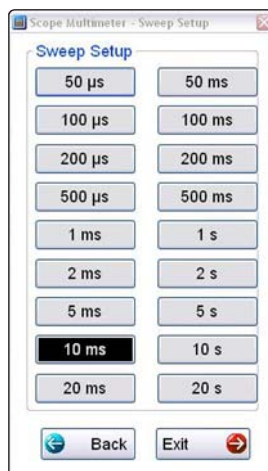

Figure 7-15 Sample Sweep Setup dialog box
2. Select **Sweep** icon to open the sweep dialog box (Figure 7-15)